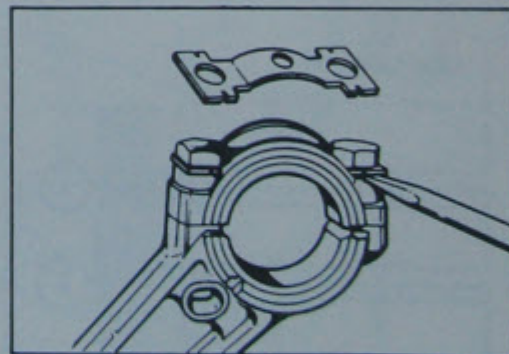

Fig. 55 Big end screw locking tab
- Secure screws with lock tab already fitted (see Fig. 55).